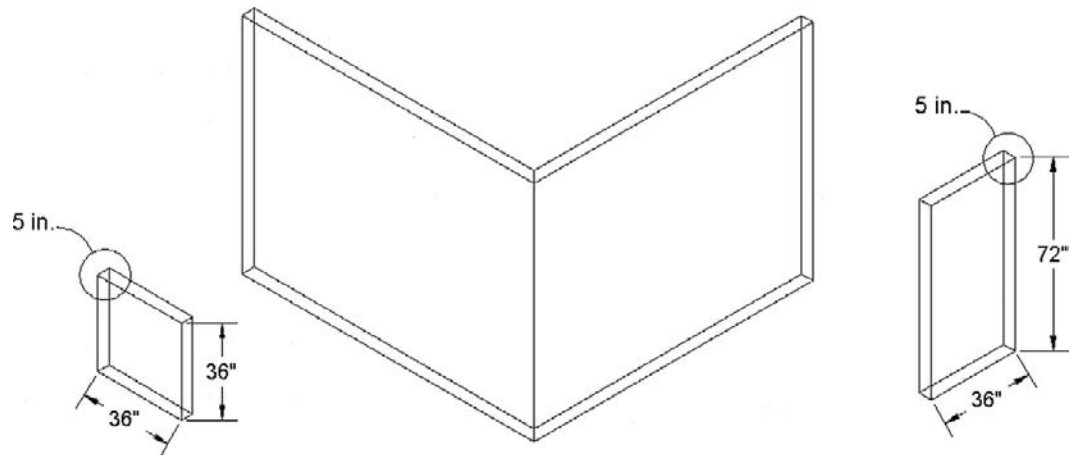

FIGURE 24.13
Step 3. Now create a 36" \times 36" window (off to the side) as well as a 36" wide \times 72" high door (also off to the side). Both should be 5" thick, as that is the overall thickness of the walls. Rotate 3D the objects into position if needed. The result is shown in Figure 24.13.